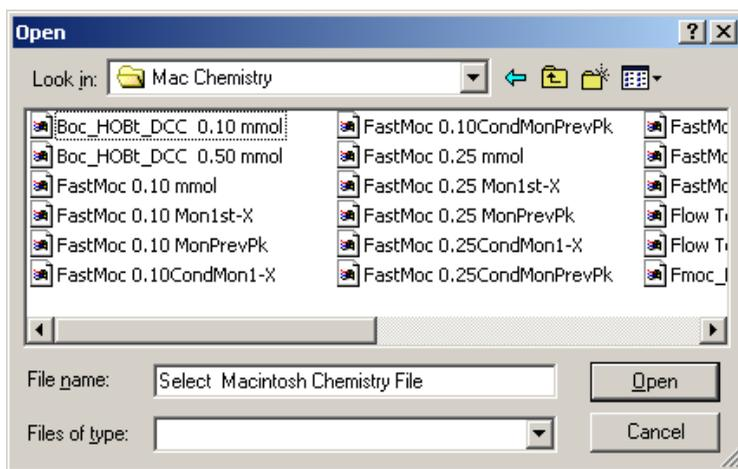

Figure 3-5 Open Mac Chemistry Dialog Box
2. Click **Browse** to search for the Source File Name. A dialog box displays by default the Macintosh Chemistry files in [Installation Directory] \Applied Biosystems\SynthAssist3.1\ Macintosh Files\Mac Chemistry (Figure 3-5).